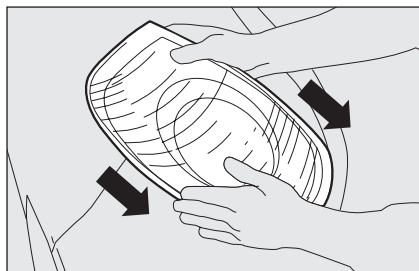

fig. 28
- ☐ remove the light unit with both hands as shown by the arrows in **fig. 28**;